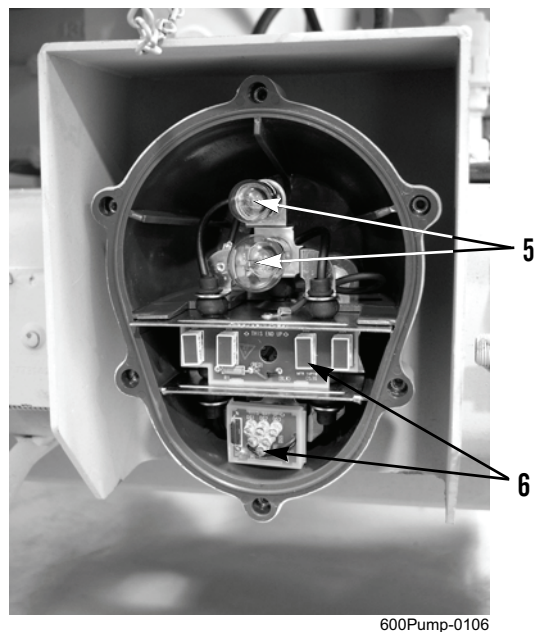

Figure 3. Lamps and LEDs.
3. Remove defective lamp (Figure 3, Item 5) by pushing in and turning counterclockwise (left).
4. Install new lamp (Figure 3, Item 5) by pushing in and turning clockwise (right).
5. Remove defective LED (Figure 3, Item 6):
6. Install new LED (Figure 3, Item 6):